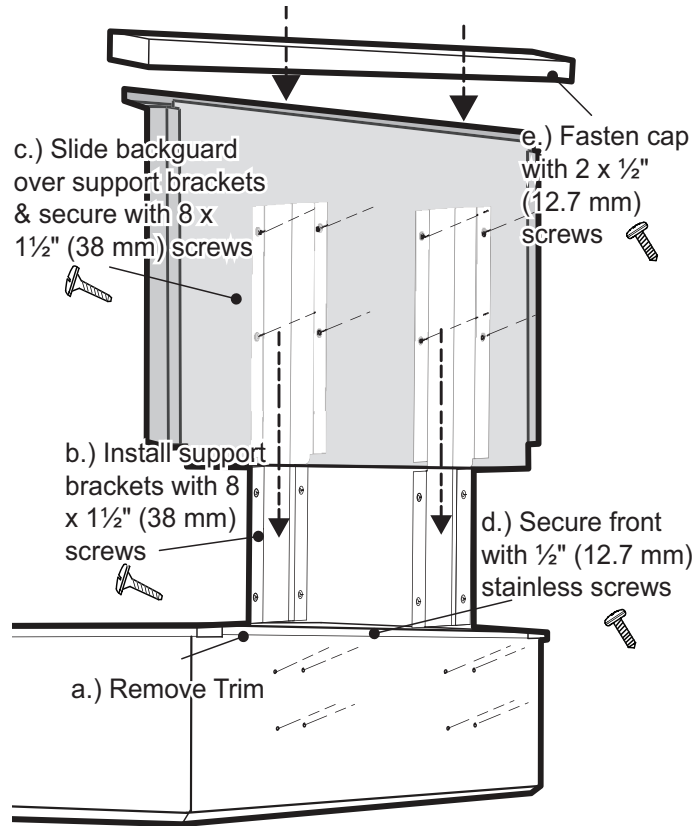

Figure 12: Low Back Attachment
- b. Slide the support brackets between the two rangetop chassis back panels. Secure each bracket with 4 x 1½" (38 mm) screws (B, *Figure 12*).
- c. Slide backguard over the two brackets on the rear of the rangetop. Fasten them together with 8 x 1½" (38 mm) screws (C, *Figure 12*).
- d. Fasten the front of the backguard to the rangetop with 2 or 3 x ½" (12.7 mm) screws (D, *Figure 12*).
- e. Place the backguard cap on top and secure using 2 x 1/2" (12.7 mm) stainless screws (E, *Figure 12*).